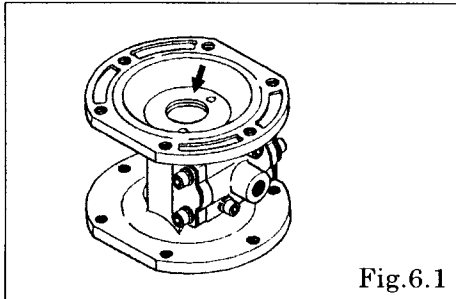

Fig.6.1
- Remove the snap ring, and remove the guide bush and center rod assembly using the snap ring ptyer. [Fig.6.1]